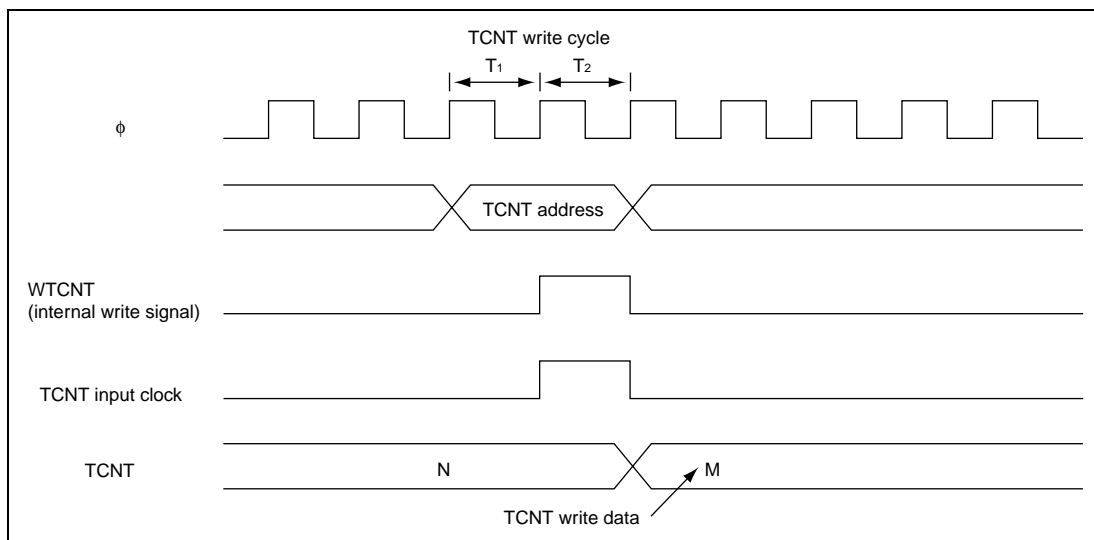

Figure 13.53 Contention between TCNT Write and Increment Operations
2. **Contention between TCNT Write and Increment Operations:** If a counter clear signal is generated in T_2 state of a TCNT write cycle, TCNT clearing has priority and TCNT write is not performed. Figure 13.53 shows the timing in this case.